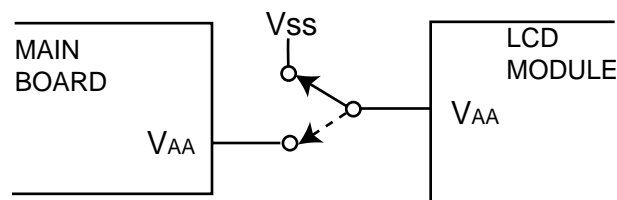

Fig. 12-7
3. Keep V_{AA} terminal connected to V_{SS} as shown in Fig. 12-7